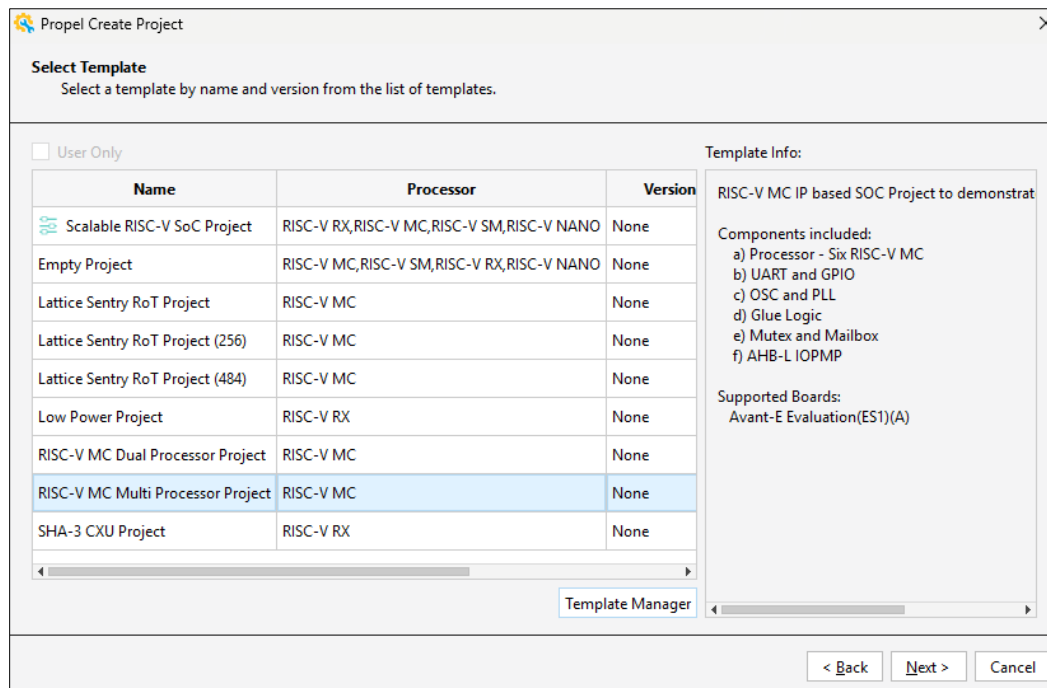

Figure 4.4. Select Template – RISC-V MC Multi-Processor Project
- Click **Next** to continue (Figure 4.4).